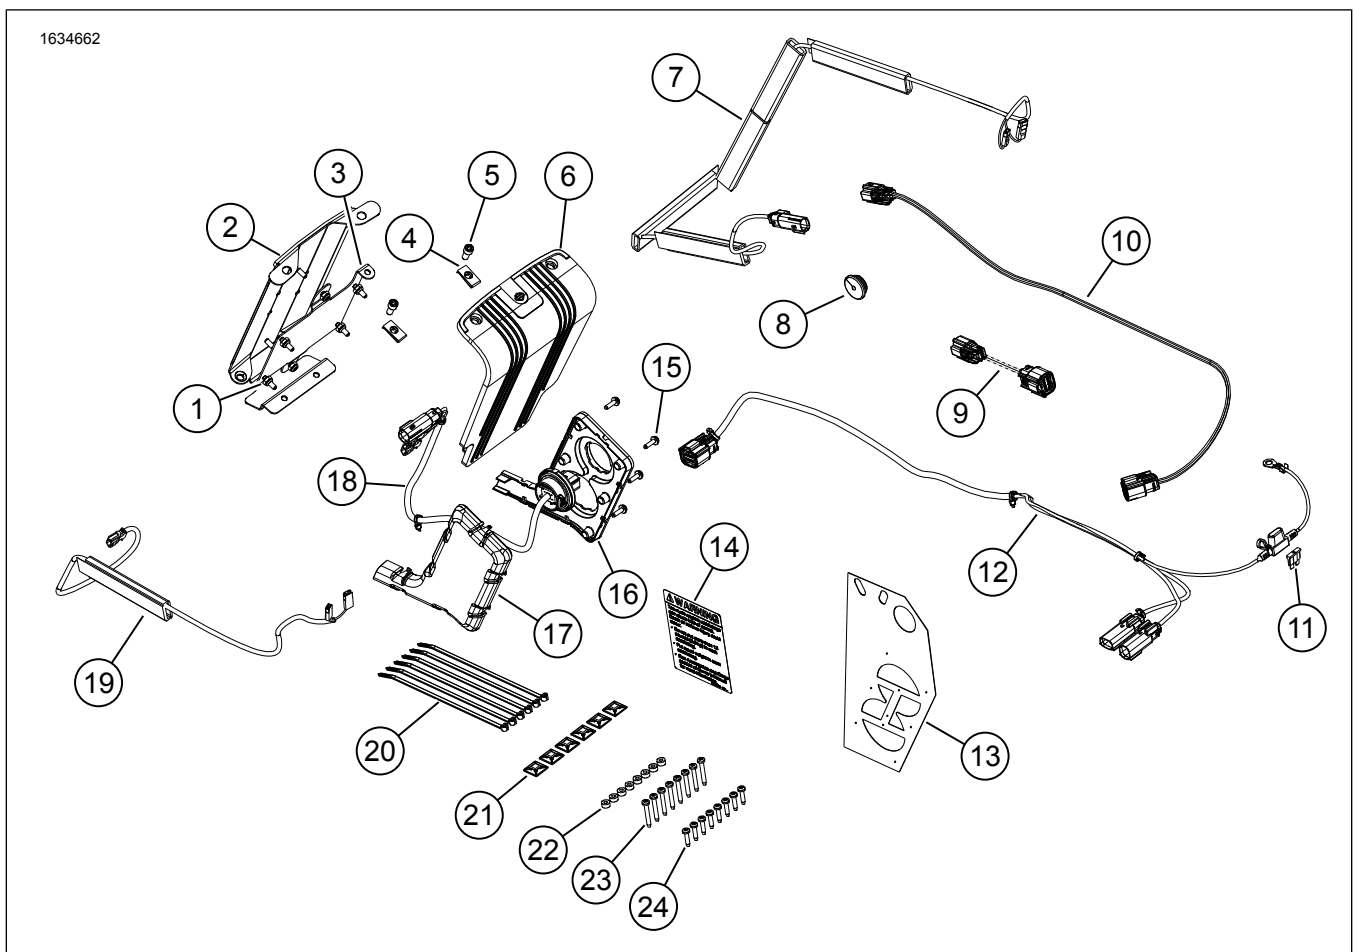

Figure 1. Kit Contents: Bluetooth Audio-Powered by Rockford Fosgate
3. See Figure 1. Install saddlebag capacity label (14).